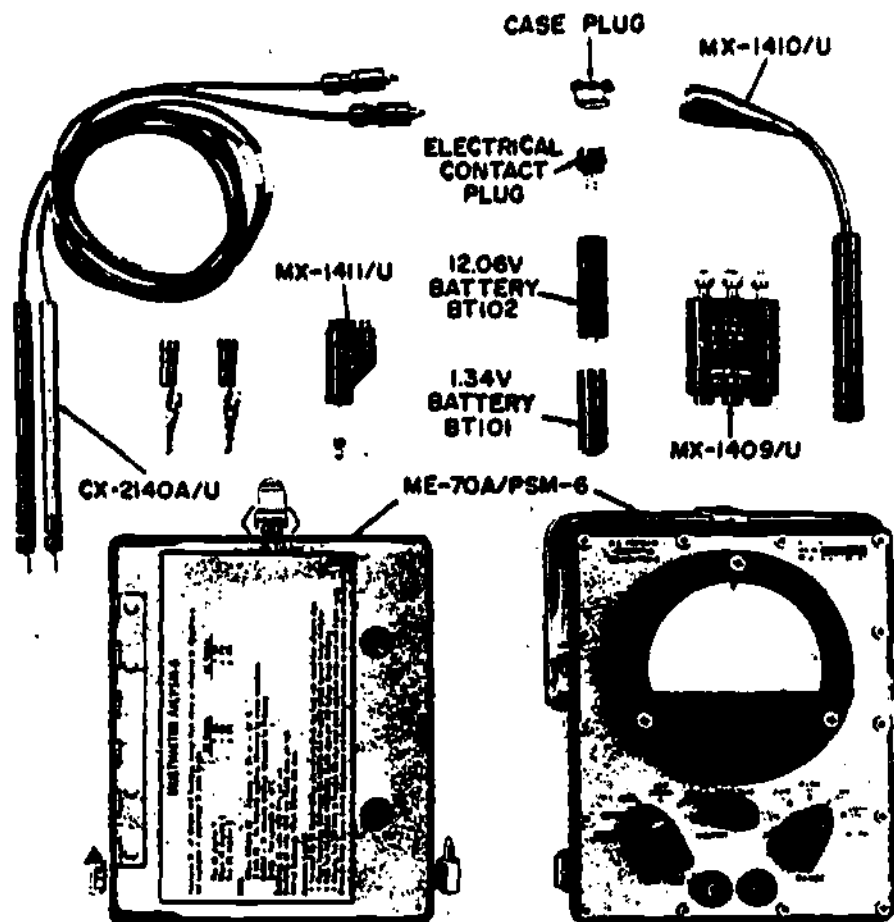

Figure 1-1. Multimeter AN/PSM-6 Using Multimeter ME-70A/PSM-6
- b. AN/PSM-6, part number 56-5002B (figure 1-1)